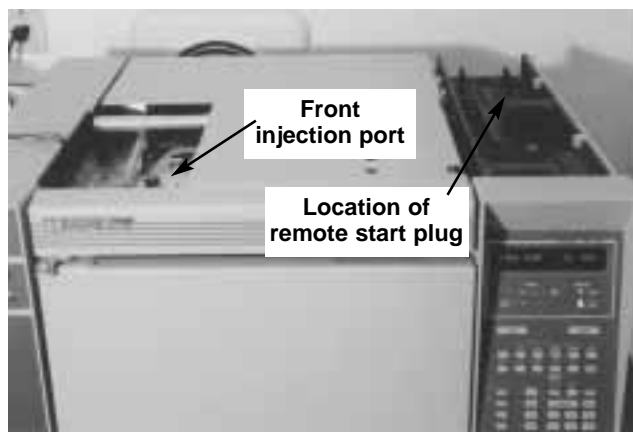

Fig 3.26 The HP 5890 gas chromatograph with the covers, removed
3. Remove the injection port cover plate and the right top cover plate of the gas chromatograph as shown in **Figure 3.26** to gain access to the injection port.